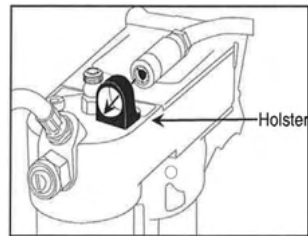

Figure 4
**COUPLER HOLSTER (see Figure 4):**